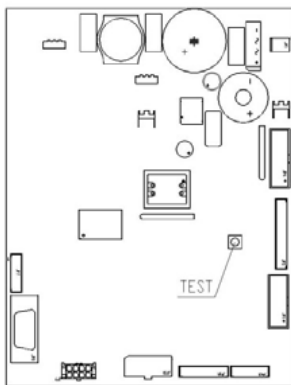

FIG. 3
- If the message "MEMORY CLEARED" appears on the display, press the button on the main board inside the box of the coin dispensing mechanism (see FIG. 3) to initialize the memory. The message "DOOR OPEN, MACHINE IN MAINTENANCE MODE" appears on the display. The machine automatically starts a self-test. If no errors are identified, the column moves into the starting position and the machine is ready for use.
When the machine is switched on for the first time the message "INIT" and then "memory cleared" will appear on the display. This message indicates that the memory has no stored data, or that the data in memory are corrupted. The machine is in the same condition as it is after the "erase memory" command has been executed or the memory has failed. The memory may be automatically reset to its pre-defined default values listed in the programming instructions by pressing the pushbutton FIG. 3 on the main board mounted in the coin mechanism compartment.
It is also possible to make a function test of the machine. Press the push-button test FIG. 3 mounted on the main board. The message "FREE VEND" will appear on the display if everything is OK, otherwise the selection "out of service" will be displayed. To restore the selection press the corresponding push-button. If the problem continues, the message indicating the type of anomaly will appear. Test vends can be made on any selection and on the display will appear the messages to indicate that if during the working there has happened an anomaly. To return to normal operating mode press again the push-button FIG. 3 placed on the main board, **or if no action has been carried out within a 1 minute period the machine will automatically exit from "FREE VEND" and revert to Standby mode as a safety feature.**